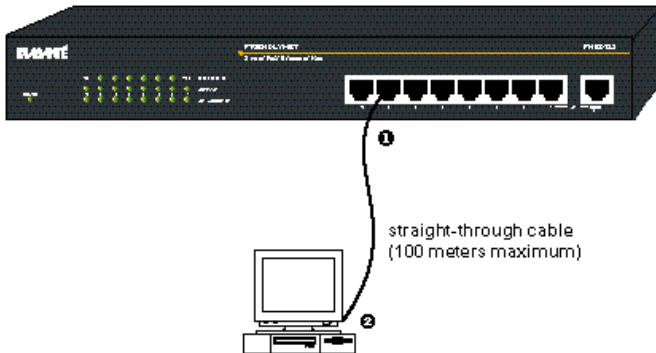

Figure 2-2 Connecting a 100Base-TX station to the hub
- 2 Connect the other end of the cable to the network station's Ethernet adapter. See Figure 2-2.